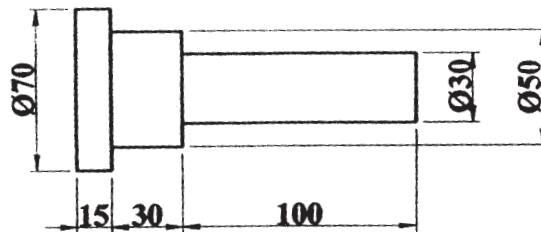

Fig. 6
- Q6)** Explain the rules of upsetting with designing upset die for the component as shown in fig.6. [16]